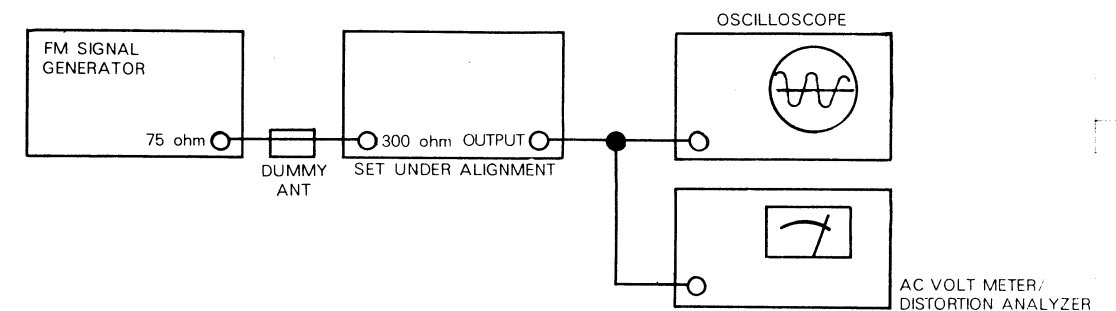

Fig.2-3
- Set the test equipment as Fig. 2-3.